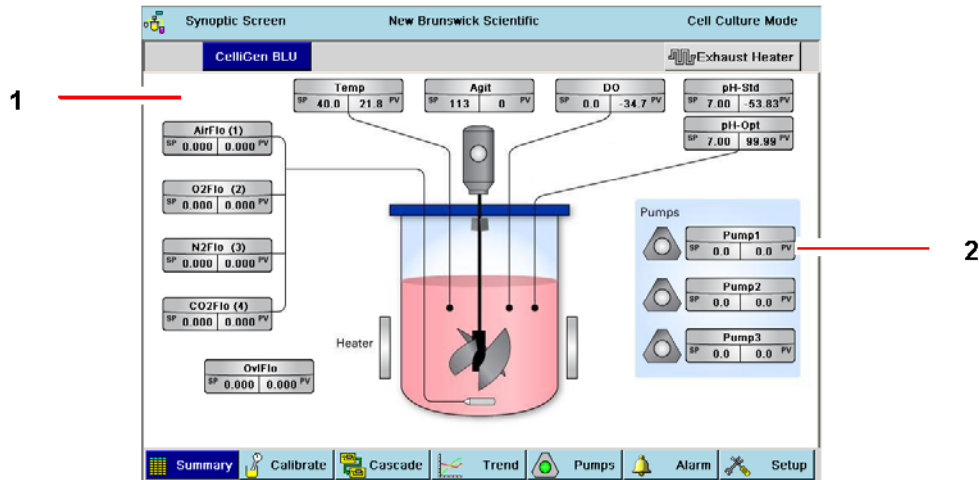

Fig. 14: Sample Synoptic Screen
(1) The far left navigation button at the bottom of all main screens is a toggle between the SUMMARY and the SYNOPTIC screens. When viewing one, the button will be labeled for the other. Upon leaving either for one of the other screens, the default selection shown on the button will be the most recently visited of the two. That is, if you leave the SUMMARY screen to view the TREND screen, for example, the far left button will be labeled SUMMARY.
(2) It is very important to be sure the exhaust heater is on when you are actively growing cells, to reduce the risk of clogging the exhaust filter.
- ▶ Press the far left SYNOPTIC button from any main screen to open the SYNOPTIC screen (see Fig. 14 on p. 34).